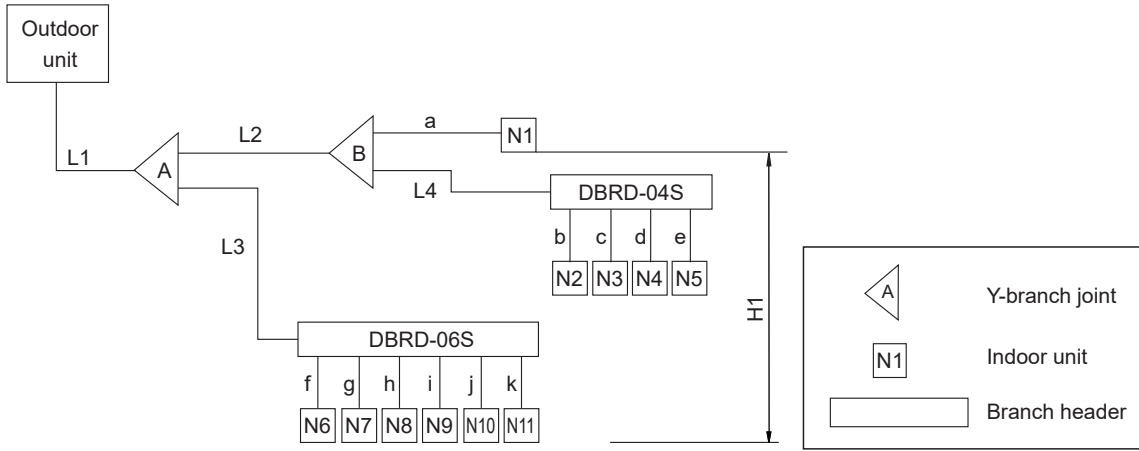

Fig.4
- Restrictions of piping length and high/low difference. See Fig.4.